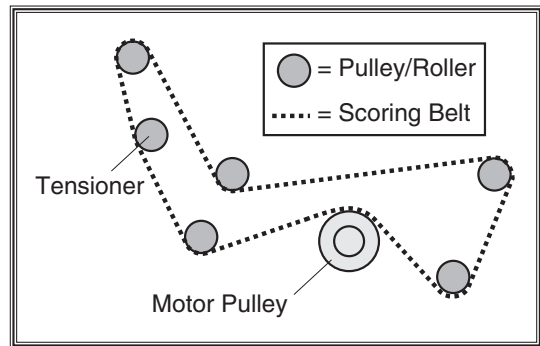

Figure 96. Scoring belt installation configuration.
5. Put the new scoring belt on the pulleys as shown in **Figure 96**, and push the tensioner against the scoring belt to take up any slack.